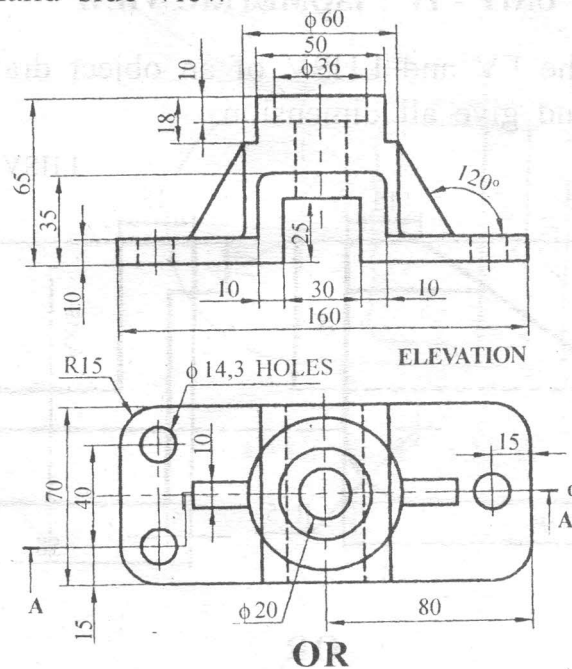

Fig. 9
Q.9) Fig. 9 shows elevation and plan of an object draw the following views :